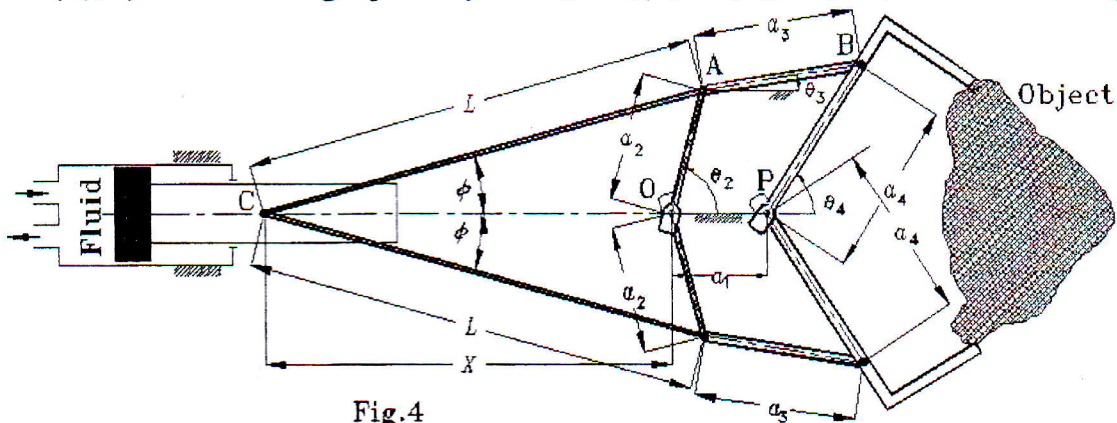

Fig.4
B) The following Fig.4 shows a simple gripper which consists from two symmetric four-bar mechanism, the first one is OABP mechanism, where OP is the fixed link of length (a_1) and point O has a coordinate (x,y) equal to (0,0). The extension of link PB is forming the gripper finger. The link OA is connected to sliding block at point C through link AC. Find;
- 2) Analytically find lengths (a_3) of AB and (a_4) of BP and (L) of AC at $\theta_2 = 30^\circ$ if $a_1 = 45$ cm, $a_2 = 35$ cm and $X = 68.15$ cm if the coordinate (x,y) of point (B) is ($X_B = 55, Y_B = 49$) related to O of (0,0).